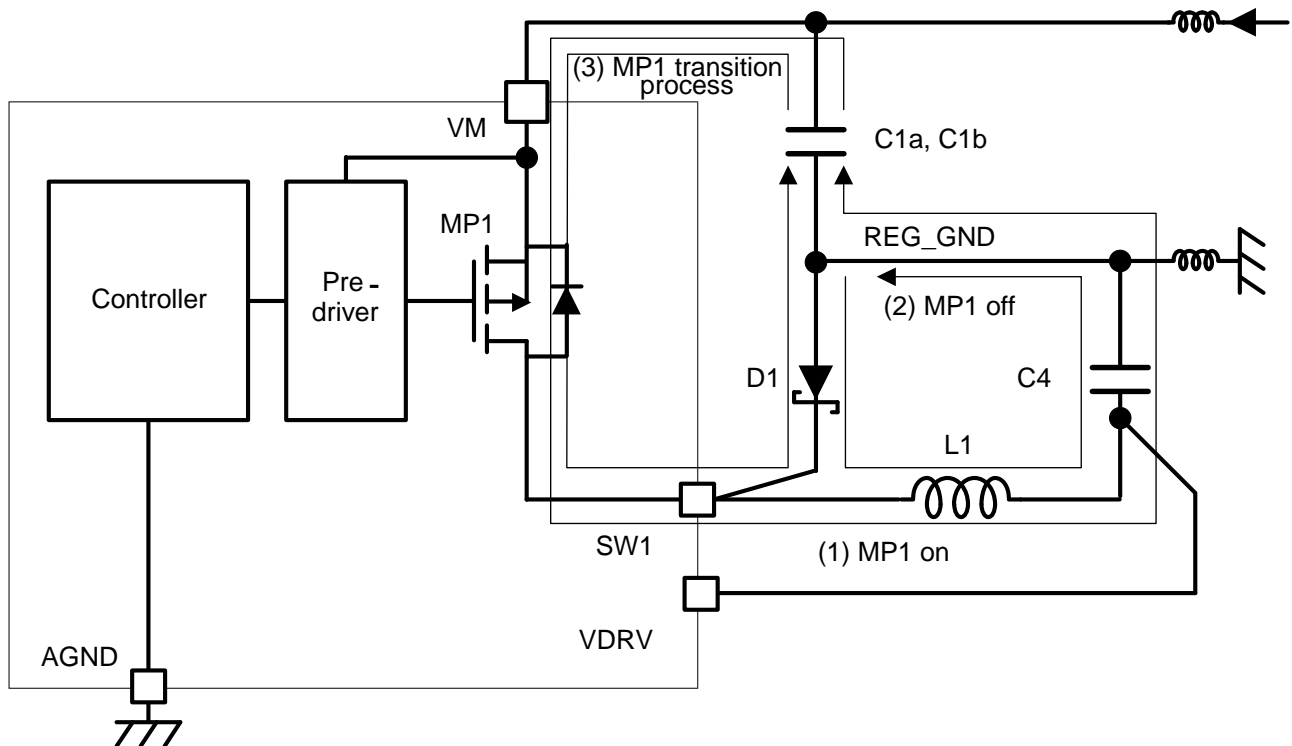

Figure 5-8 Current Path of the Buck Switching Regulator
The most important aspect of the board layout for the buck switching regulator is the minimization of noise generated by the switching regulator. As shown in **Figure 5-8**, the buck switching regulator changes the switching current flow path according to the (1) the switching element (MP1) on, (2) MP1 off, and (3) MP1 transition process from off to on, and the steep current change at the switch timing of MP1 generates noise. To minimize this noise, it is required to minimize the area of the current loop in (3) shown in **Figure 5-8**. The followings are some points to be considered for minimizing the area of the current loop in (3). It is very important to connect the wiring between the external components of the buck switching regulator in a single layer without vias to minimize noise.
- Design the board layout so that the area of the current loop in (1) composed of the inductor (L1), output capacitor (C4), and Schottky diode (D1) is small.
- The wiring between the SW1 pin and the inductor (L1), and the REG_GND wiring between the Schottky diode (D1) and the output capacitor (C4) should be as short as possible, giving priority to the board layout for (3), because current flows continuously in the conditions (1) and (2).